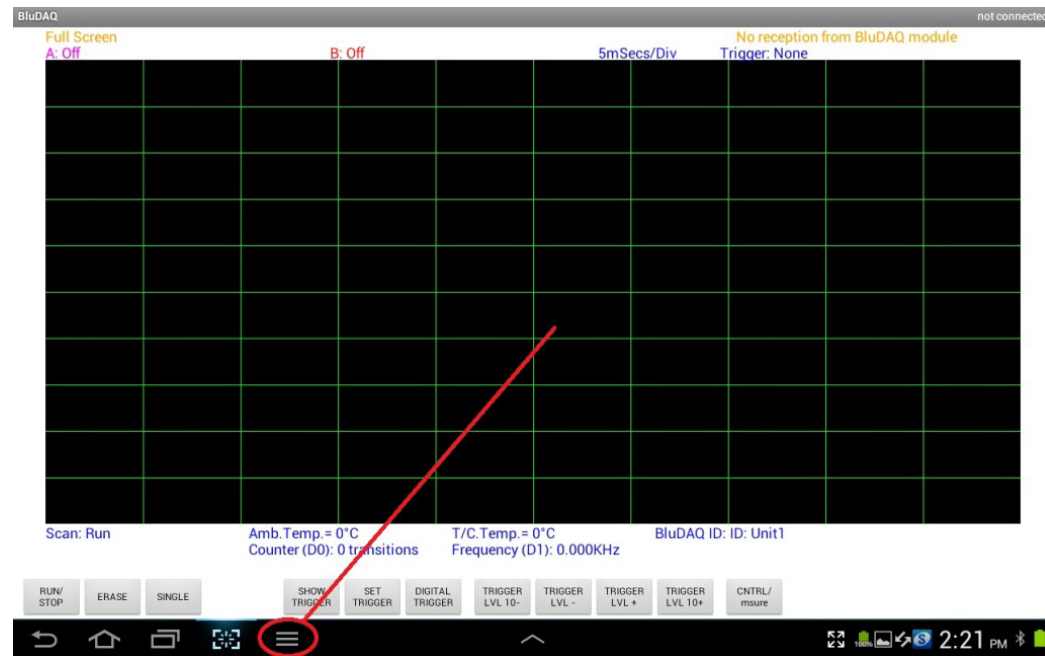
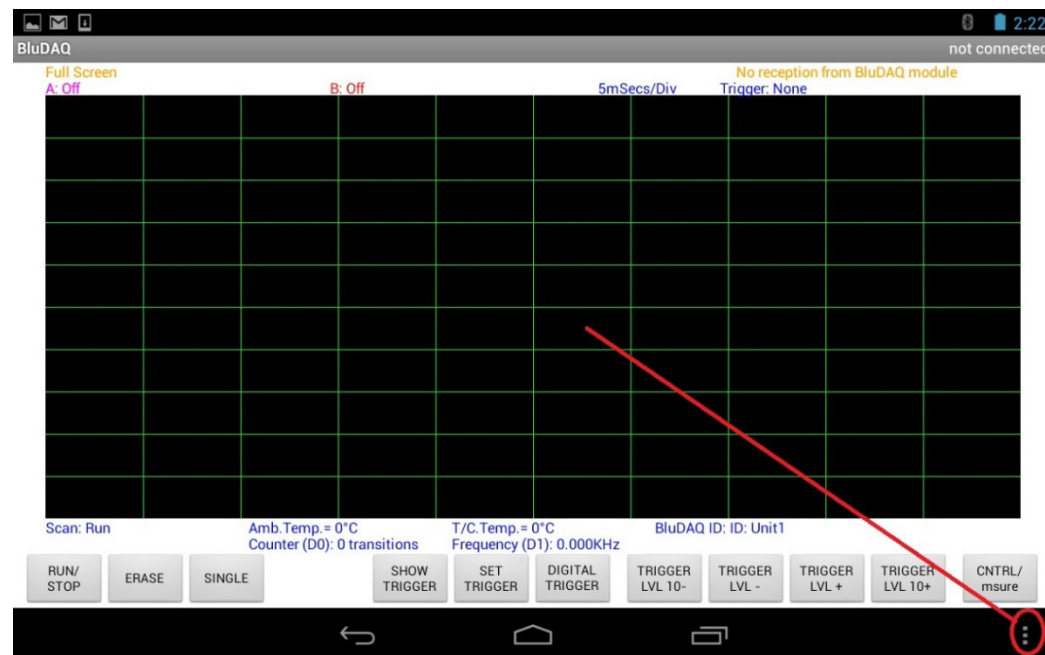

Figure 3: 3 horizontal lines icon on the Samsung
Figure 4: 3 horizontal lines on the Nexus 7
17. Establish Bluetooth communications by touching the key on the bottom of the screen made up of 3 horizontal lines. This symbol and its location vary between different Android devices as seen in Figure 3 and Figure 4. Some newer devices don't have this symbol at all. See the note at the end of the device table in Appendix C for how this is handled.